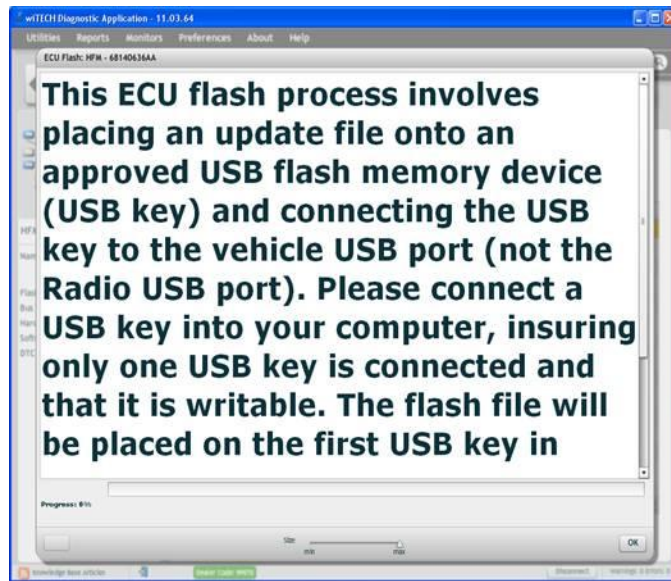
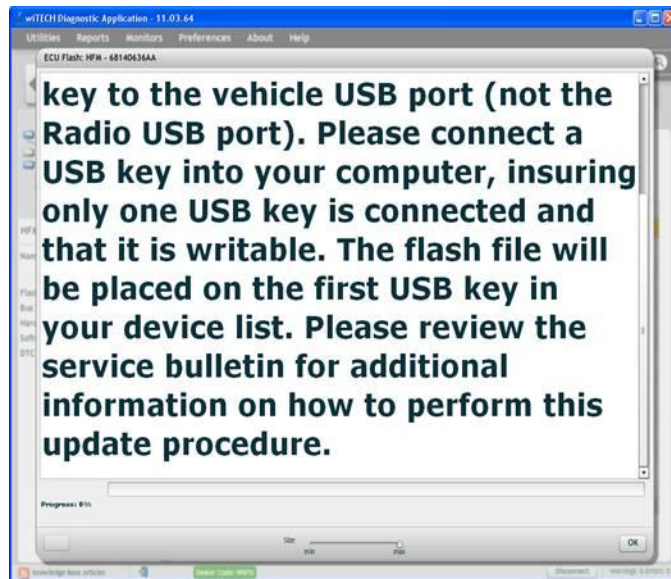

Fig. 5 Process Description - Top Of Scrollable Dialog
Fig. 6 Process Description - Bottom Of Scrollable Dialog
6. A scrollable Process Description Dialog will appear (Fig. 5) and (Fig. 6). Insert the dealer supplied USB memory stick into the first USB port of the wiTECH computer at this time, ensure that no other USB memory sticks are installed, and click on OK to acknowledge the instructions.